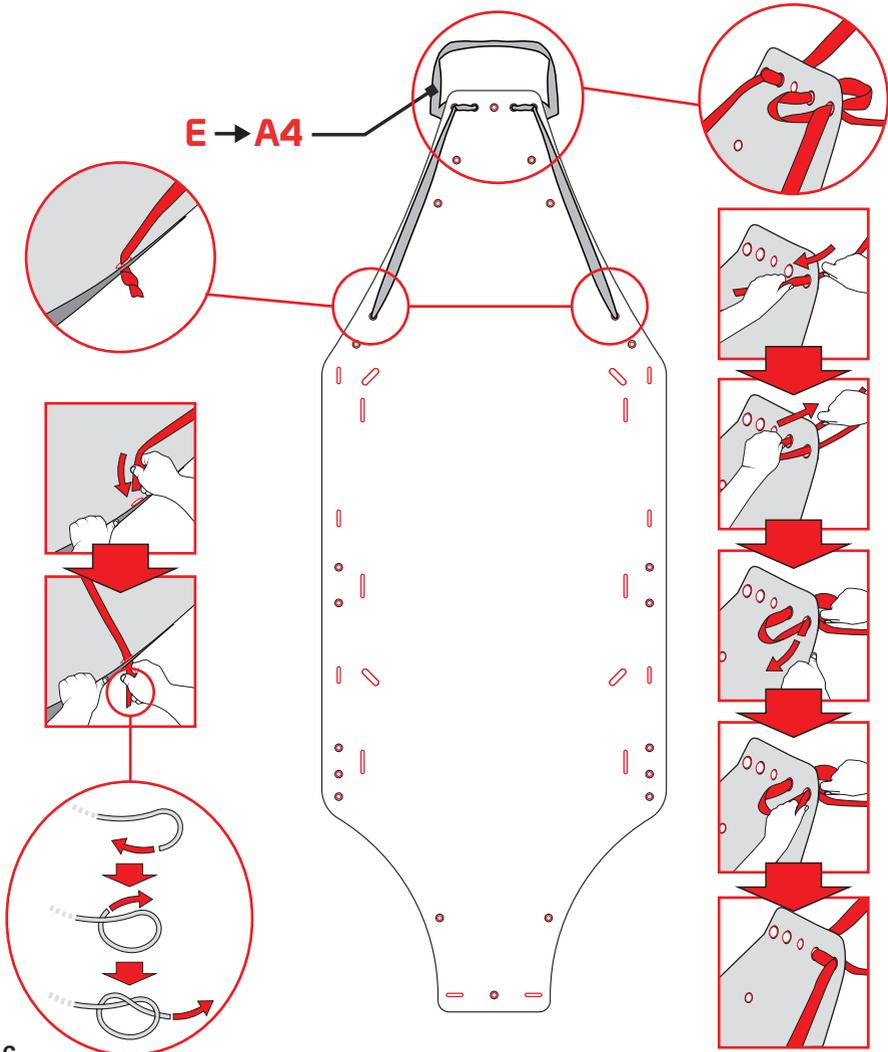

Fig.6
- Insert the sling (E) in the A4 holes in the support surface (fig. 6).